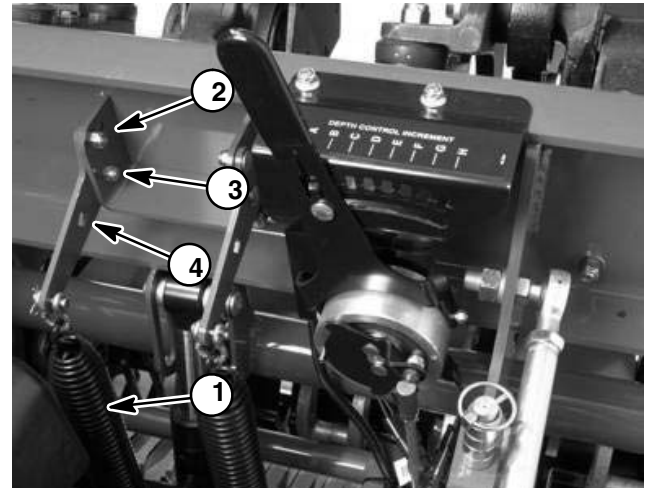

Figure 42
4. Disconnect the lower end of one extension spring (item 2) from frame:
B. Loosen, but do not remove, both flange nuts (item 6) that secure the spring plate (item 5) for one of the extension springs.
C. Using a 1/2" breaker bar, hold spring plate (item 5) to prevent it from moving and remove **upper** flange nut and carriage screw (item 4) from spring plate and coring head frame (Fig. 42).
E. Remove hair pin (item 8) and clevis pin (item 7) that secure spring shackle (item 2) to frame.